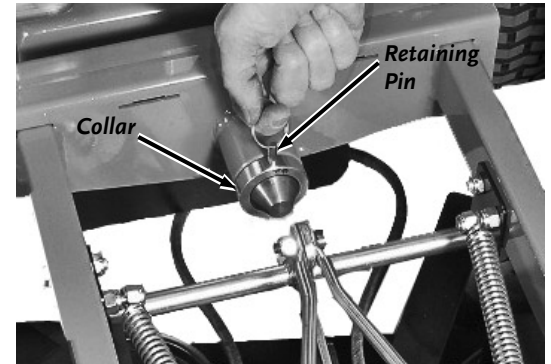

Figure 7
3. Attach the Collar and insert the Retaining Pin (Figure 7).